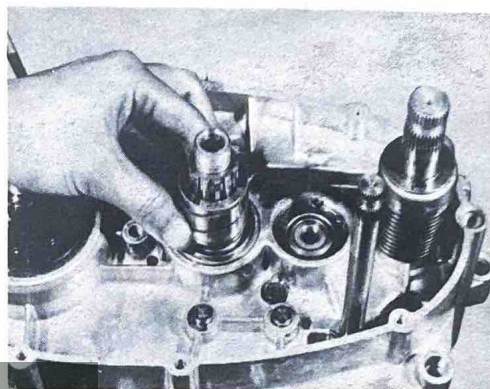

Fig. 4-8-11
- c. Mount the spacer on the transmission main axle, and check for play. If the play is excessive, replace the spacer. (Fig. 4-8-11)